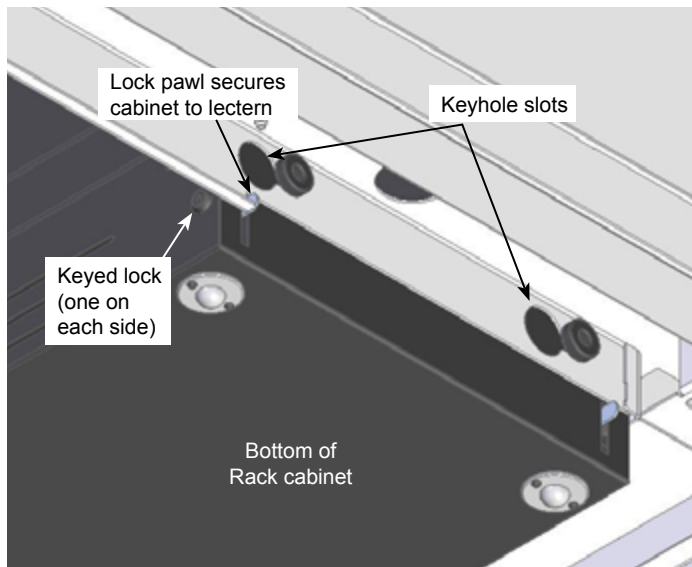

Figure 4.2
1. To detach the rack cabinet from the lectern, unlock the cabinet lock pawl near the floor. **Figure 4.2.**